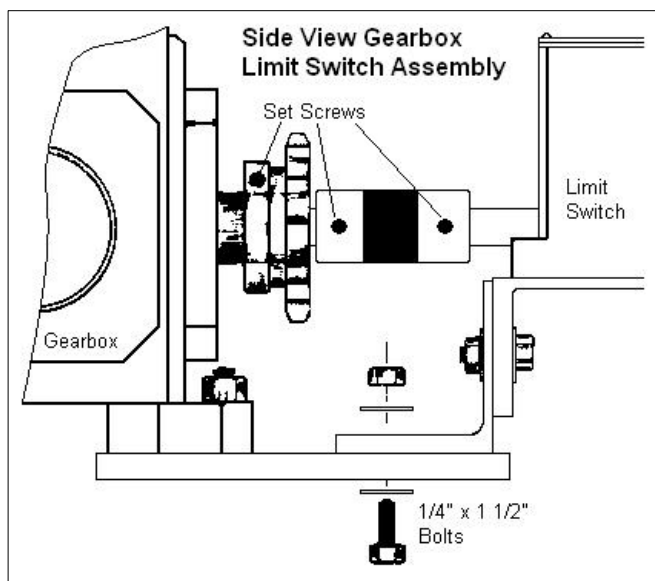

Figure 24 Installing limit switch and checking set screws
Remove two (2) $\frac{1}{4}$ " bolts from limit switch mounting bracket. Loosen clamp on open end of drive tube. Slide drive tube over gearbox shaft. **SEE Figure 24 Page 21.** Install mounting bolts back in bracket and align limit switch shaft with gearbox shaft. Tighten limit switch mounting bolts and recheck alignment of shafts. Tighten both drive tube clamps.